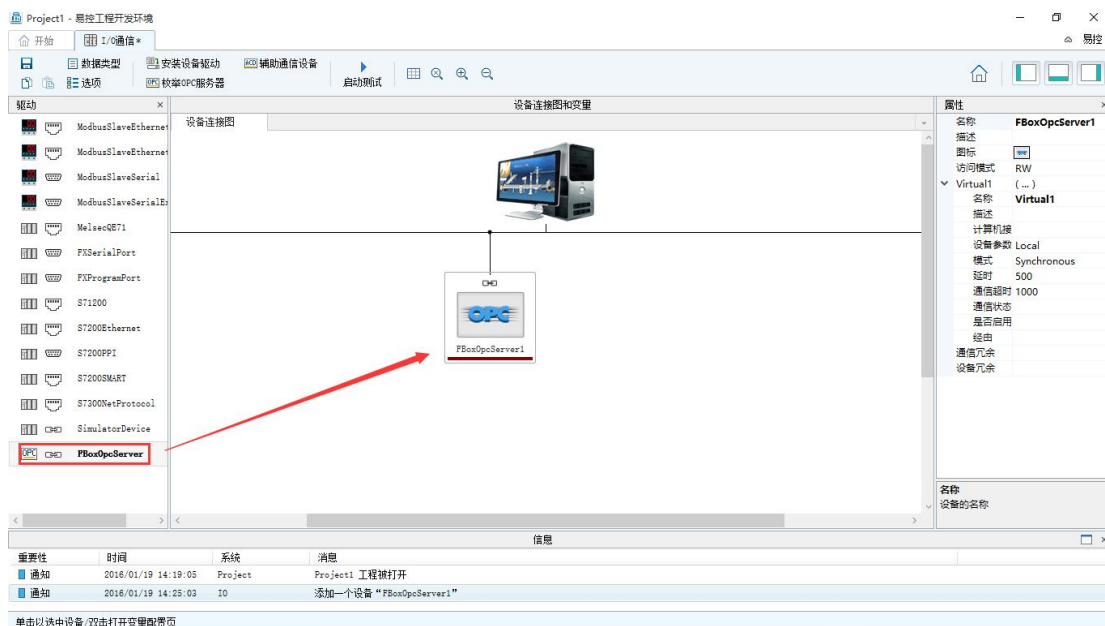

Fig. 4.10-6 Establish the connection between FBox and the configuration device
(4) After adding the "FBoxOpcServer" driver, the "FBoxOpcServer" option will display in the left driver window of the "I/O communication" page. Select it and drag it to the net in the device connection window. The default name of it is "FBoxOpcServer1", as shown in Fig. 4.10-6. Now, the connection between the FBox device and the configuration device (software) has been established.